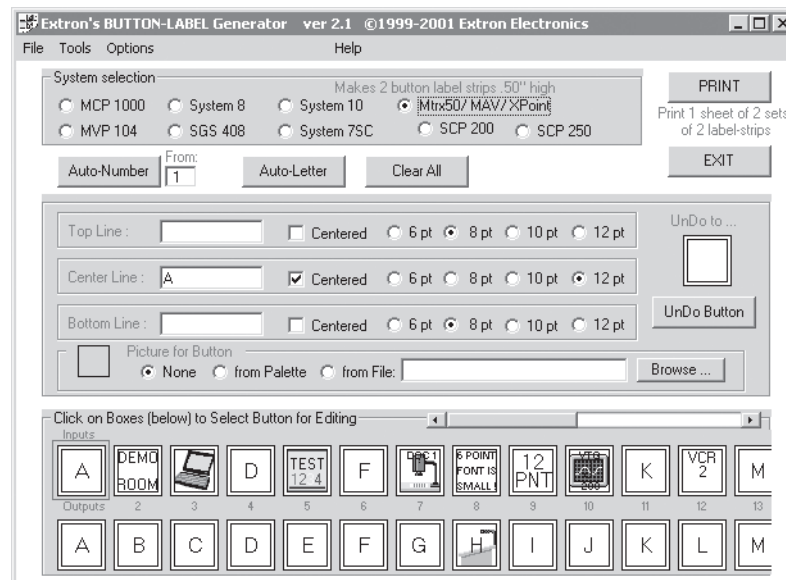

Figure 5-7 — Extron's Button-Label Generator window
1. To run the Button-Label Generator program, double-click the Button-Label Generator icon (shown at left) in the Extron Electronics group or folder, and click OK when prompted. Extron's Button-Label Generator window appears (figure 5-7).